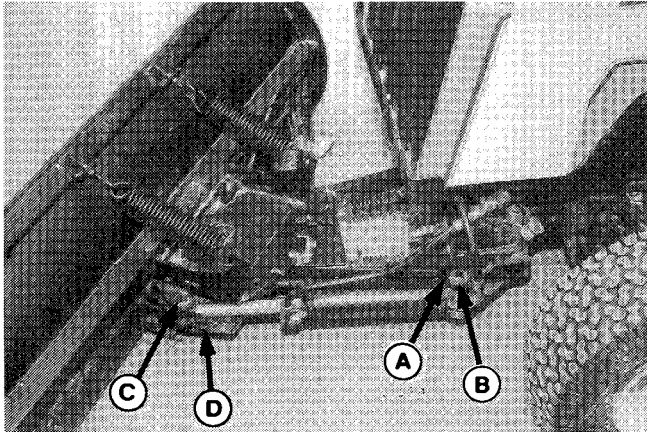

Figure 13.
3. Install the two male fittings (A).
4. Connect the two hoses by installing 90° tube ends (B) onto the male fittings. To be sure the hoses are properly indexed, position as follows. With cylinder positioned so that rear mounting hole (C) is straight up and down, the tube ends should be positioned so that hoses are straight up.
5. On the rear hose, install the elbow (D) pointing in opposite direction of the elbow attached to cylinder. Then, install the connector onto the elbow.
6. Install the other connector (E) onto the front hose.
- a. Install cotter pin (A, figure 13) in one end of pin (B). (Pin (B) should have holes in each end.)